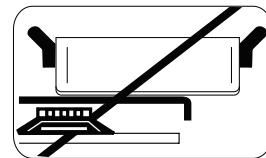

Fig. 4
- Locate pan centrally over burner so that it is stable and does not overheat the appliance. (Fig 4)